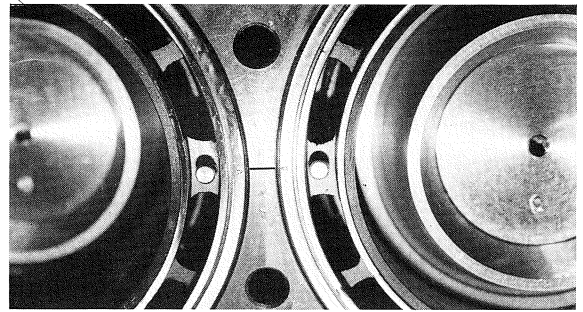

Fig. 70 Assembly marks for sleeve setting
- b) When the push rod has been inserted, correctly locate the position of the cylinder sleeve, setting it to the countermark (refer to Fig. 70).